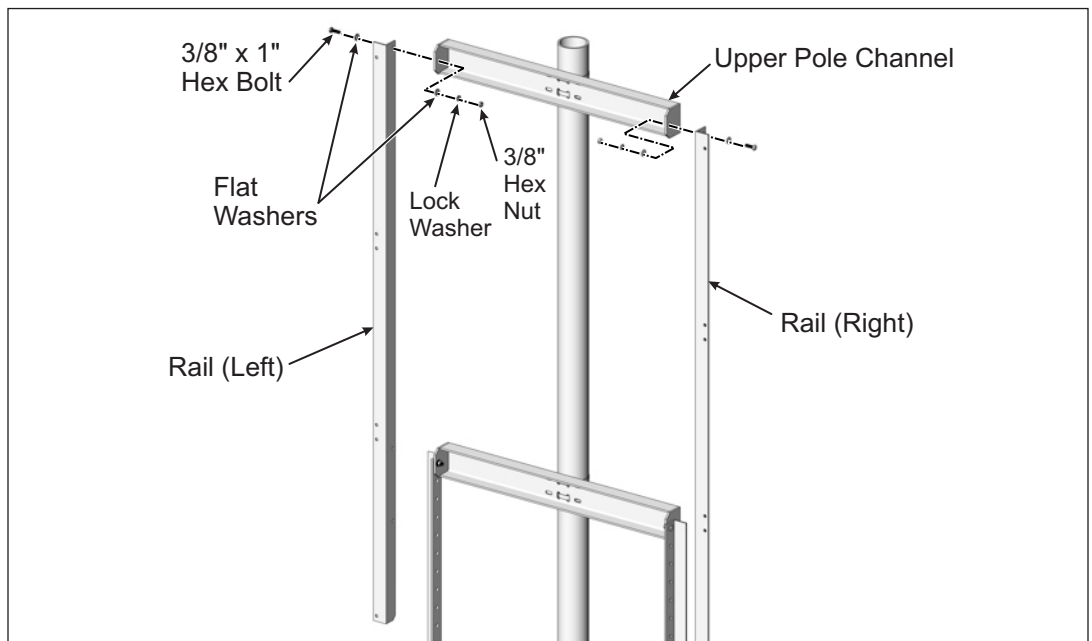

*Figure 2-1: Attaching First Half of Expandable Struts to Pole Channel*
The Expandable Struts are attached to the ends of the lower Pole Channel using 3/8" x 1" hex bolts and hardware. The Struts are attached/assembled in two stages with one half installed here (See Figure 2-1) and second half installed in Step 4.
- A. Orient and align the Struts as shown in Figure 2-1. Secure with one 3/8" x 1" hex bolt, lock washer, flat washers and Hex Nut. Finger tighten for now.